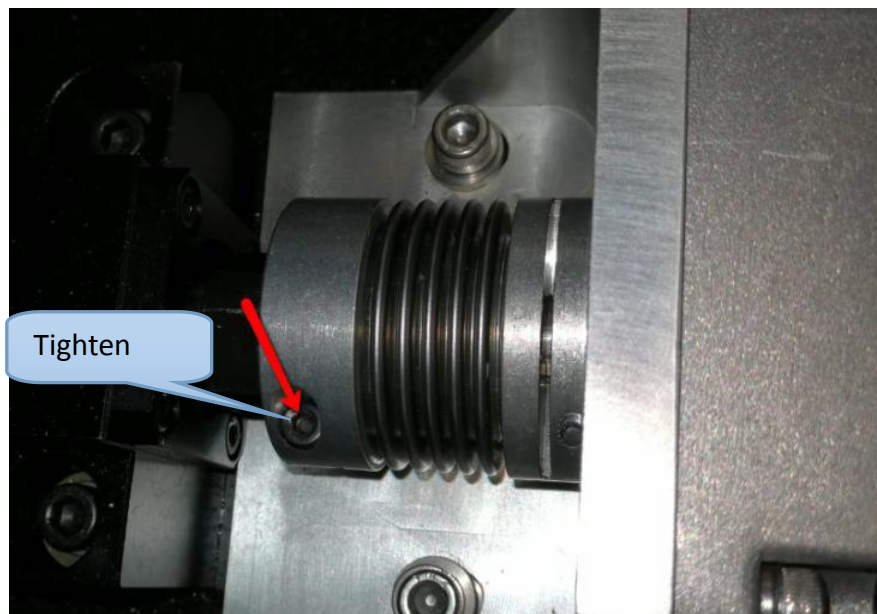

Figure 11 Coupling screw fastening
16. Assemble the 2660-0032 (Coupling) to V810 Y-Axis Ball screw Kit (P/N, 2650-0111) and tighten up 1 x screws as below Figure 11.